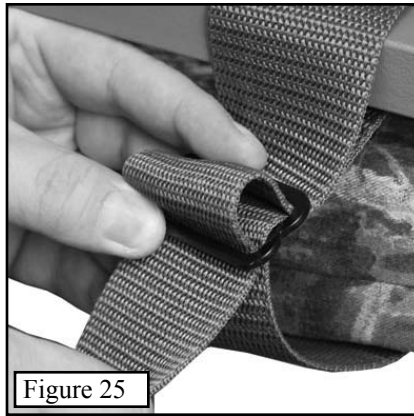

Figure 25
Step 5. Position your safety harness to minimize the amount of slack in the safety line and tether strap then carefully sit down. The treestand seat will provide maximum comfort when the seat pad is near horizontal rather than tipped down in the front. The seat height can be easily raised (for bow hunting) or lowered (for gun hunting) by adjusting the buckles up or down the webbing. See **Figure 25**.
Step 3. The teeth area on the platform should come into contact with the “V” brace on the seat climber as shown in Figure 24. From this position, pull the seat backrest through the large gap in the platform as shown in Figure 25.